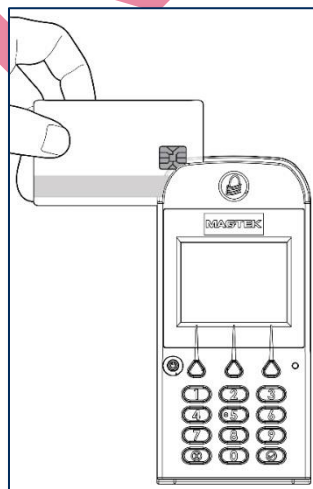

Figure 6-17 - Swiping a Magnetic Stripe Card
- 2) Locate the magnetic stripe reader on the top of the device, shown in **Figure 6-17**.